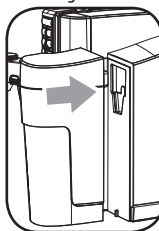

Fig. 1
- 1- Move the carafe alongside the machine, keeping it slightly raised (Fig. 1).